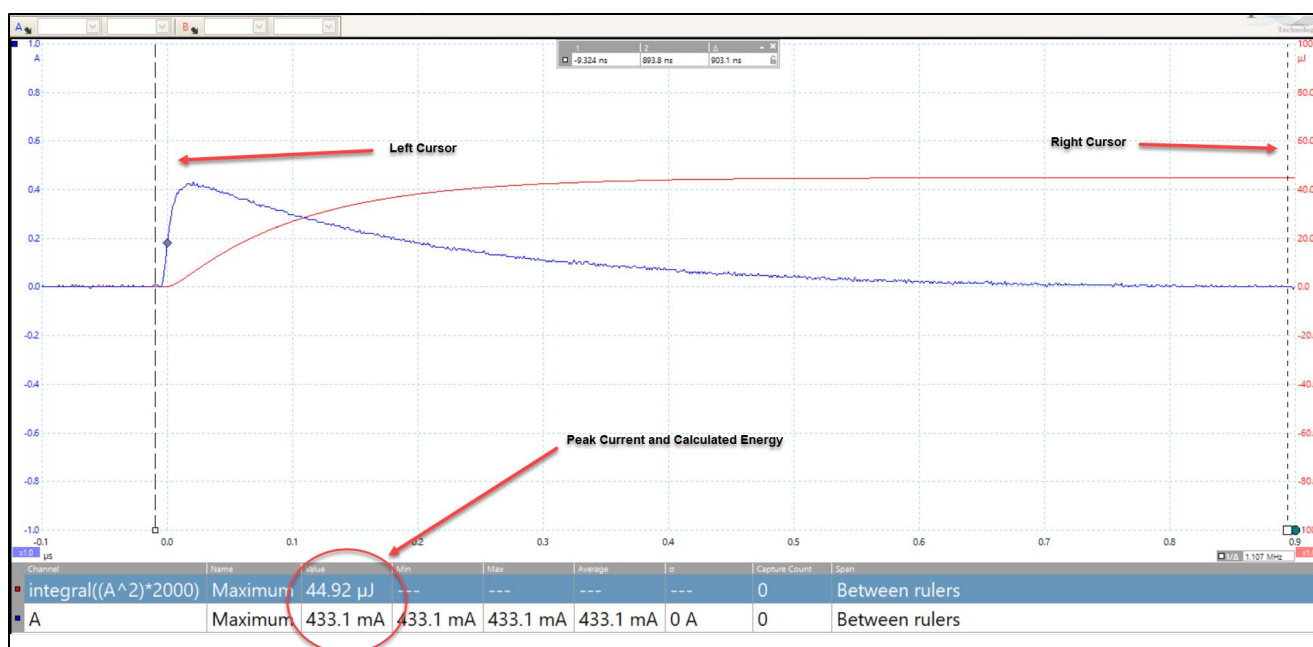

Figure 9. Screenshot of the PicoScope® 6 Software measuring the energy.
15. Using the computer mouse drag the left scope cursor (vertical dotted line) to the left of the discharge waveform start and the right cursor to the point where the waveform decays to zero. The calculated energy should be  $50 \pm 6$  µJ (microjoules) and the peak current should be greater than 420 mA (milliamps 0.42 amps). The blue line is the discharge waveform and the red line is the calculated energy curve in microjoules (Figures 9 and 10).